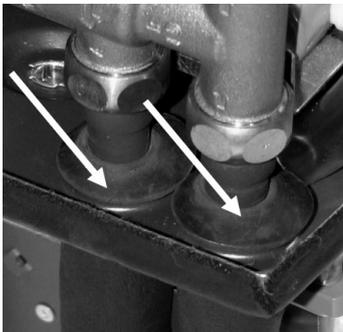

Fig. 43: Press the rubber tube cuffs onto the insulation
- Press the rubber pipe cuffs onto the insulation (see fig. 43).